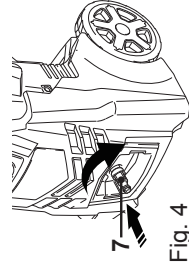

Fig. 4
4. Screw the water inlet hose connector (7) to the water inlet (5) (Fig. 4).